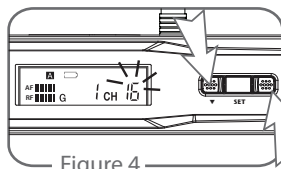
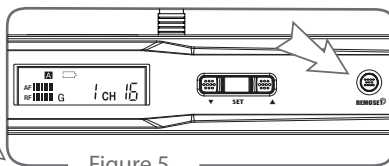

Figure 4
Figure 5
- (1) Press "Set" button ④ for the receiver for 3 Seconds, the group (G) in the "Group & Channel" area ⑰ will flash. (Figure 4)
- (2) Press "▲Up" ② or "▼Down" ③ button to select a desired group
- (3) Press "Set" again and the Channel (CH) in the "Group & Channel" area will flash.
- (4) Press "▲Up" or "▼Down" button to select a desired channel.
- (5) After setting, press "Set" again to save the settings.
- (6) Press "REMOSET" ⑥ to synchronize the channel of a transmitter. (Figure 5)
- (7) If the channel of the transmitter fails to change, the "REMOSET" key will keep flashing.